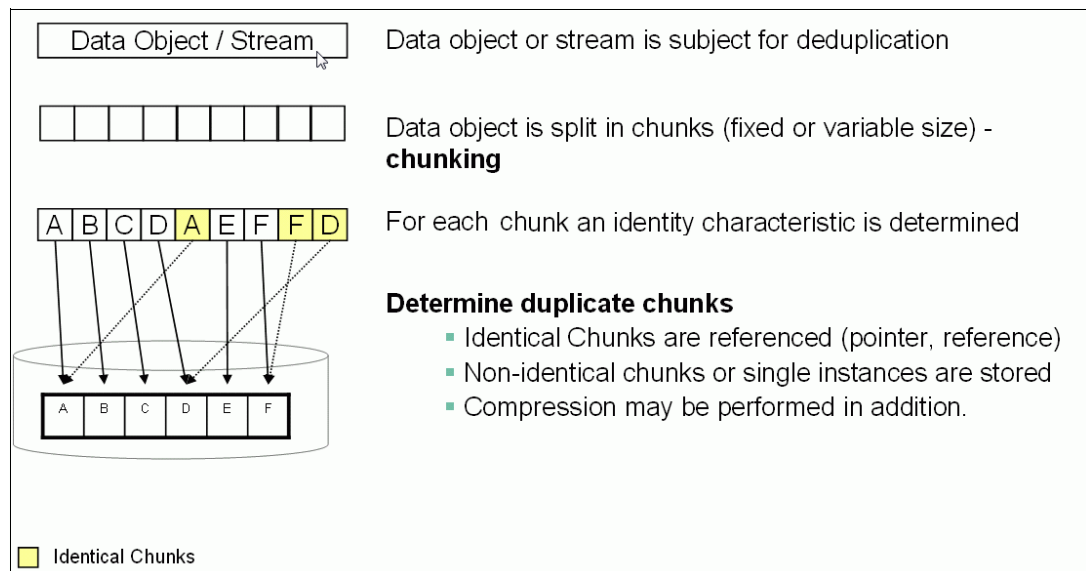

Figure 2-1 Simplified data deduplication process
Figure 2-1 illustrates how ProtecTIER data deduplication stores repeated instances of identical data in a single instance. This process saves storage capacity and bandwidth. Data deduplication can provide greater data reduction than previous technologies, such as Lempel-Ziv (LZ) compression and differencing, which is used for differential backups.